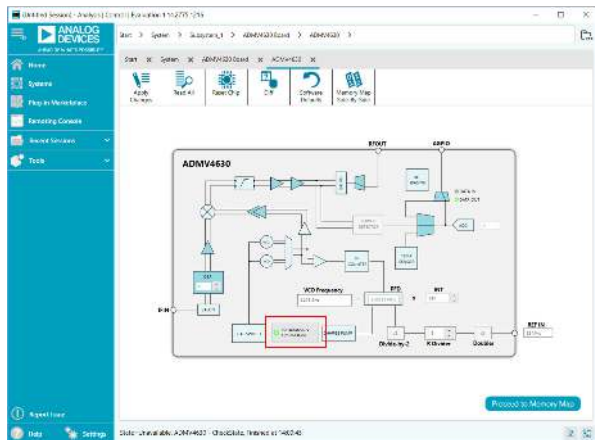

Figure 6. ADMV4630 Block Diagram in the ACE Software
6. The ADMV4630 block diagram appears (see Figure 6).